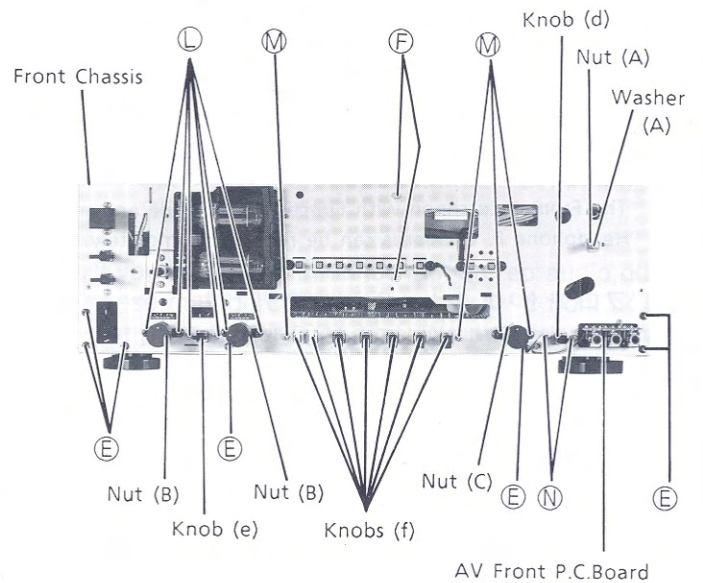

Figure 6
- (1) After removal of Front Escutcheon, remove seven screws marked "Ⓞ" as shown in Figure 6.
(2) Remove Front Chassis upward and then proceed to items 7-1~7-10.
- (1) Remove two screws marked "Ⓞ" as shown in Figure 6.
(2) Disconnect all wires from the Driver P. C. Board.
- Remove one nut (A) and one washer (A) as shown in Figure 6.
- (1) Remove one knob (e) and six screws marked "⓪" as shown in Figure 6.
- (2) Remove two nuts (B) as shown in Figure 6.
- (3) Disconnect all wires from the Tone Control P. C. Board.
- (2) Remove one nut (c) as shown in Figure 6
- (1) Remove one knob (d) and remove two screws marked "Ⓝ" as shown in Figure 6.
- (2) Disconnect all wires from the AV Front P.C. Board.